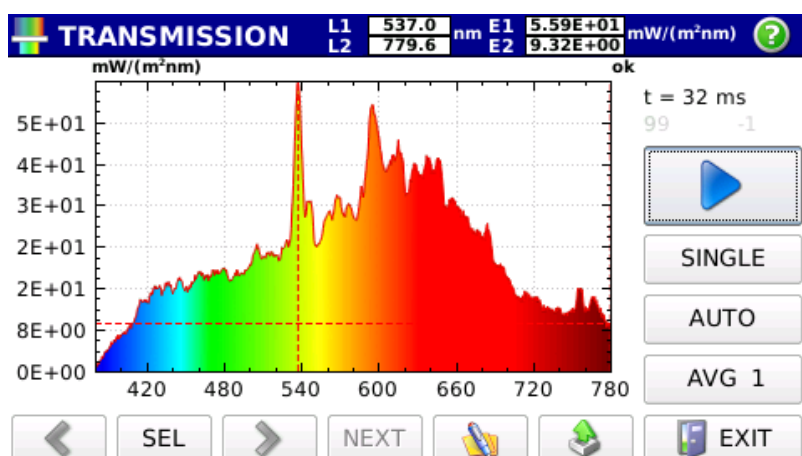

Fig. 3.25 : Reference spectrum acquisition
3.4.3 Press REF to acquire the reference spectrum. The spectrum is displayed on the screen (fig. 3.25).